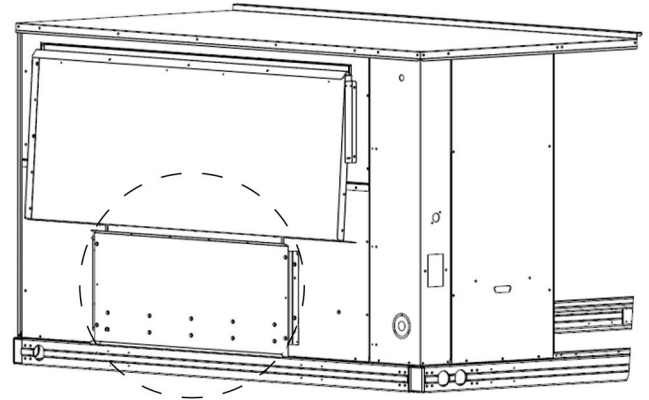

Fig. 27 — Shipping Location, Vertical Units
1. Remove the hood top panel from its shipping position on the unit end (see Fig. 27).